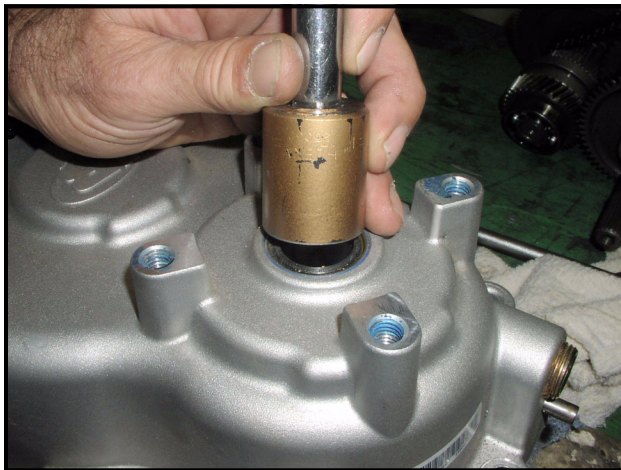

Figure 8-45 Remove Shaft Seals from Case
2. Use a socket or thick wall tube slightly smaller in diameter than the seal and gently drive the seal from outside to inside the case to remove each seal (**Figure 8-45, Page 8-15**). See following **NOTE**.